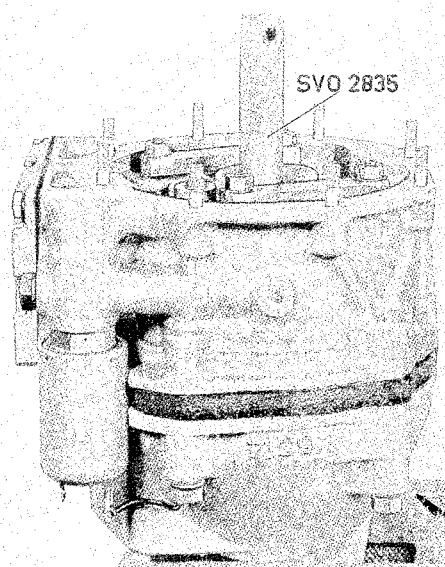

Fig. 4-53. Front casing installation
5. Install the brake ring on the front casing. Place the front casing on the rear one. Fit washers and nuts, see Fig. 4-53. Note that both the copper washers should be fitted on the upper bolts. Tighten the bolts a little at a time until they are tightened evenly all around.